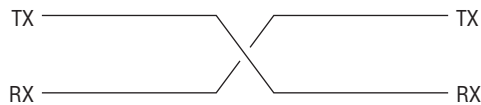

Figure 5-2: Transmit and receive wires
Serial ports are extremely simple. This simplicity is one reason why they are used so often. Data is sent on one wire, the transmit wire (TX), and received on another, the receive wire (RX). On the other side of the cable, it is connected to another computer with a TX pin and an RX pin. Inside the cable itself, the TX and RX wires are inverted. The TX pin on one side is connected to the RX pin on the other side. This is illustrated in Figure 5-2.